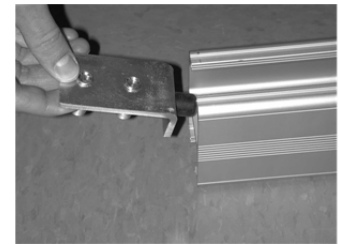

**Figure 40**
25. Slide the standard trolley (see Figure 9 – item #3) into the rail (see Figure 40).